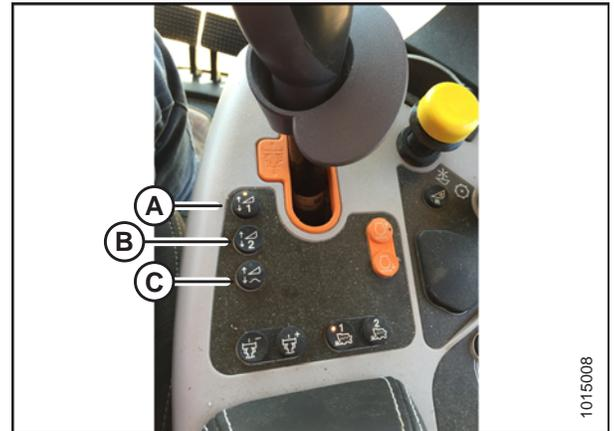

Figure 3.312: New Holland Combine Controls
5. Select one of auto height set point buttons shown in Figure 3.312, page 191.